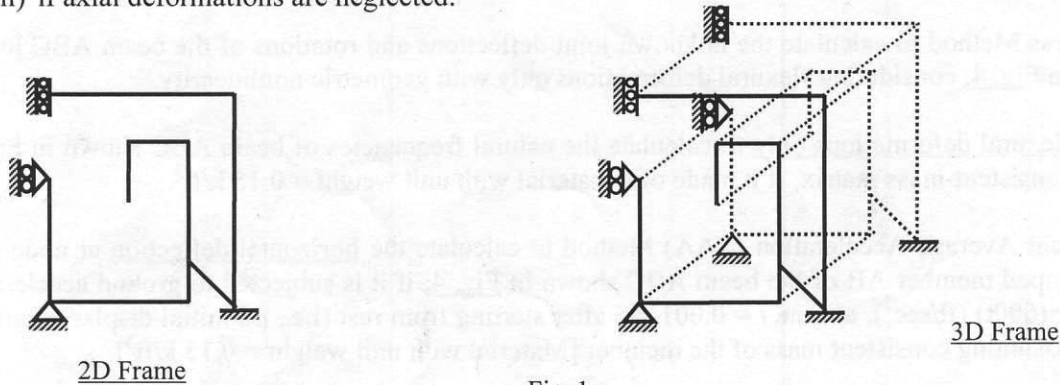

Fig. 1
1. Determine the size of stiffness matrices (**K**) of the 2D frame and 3D frame shown in Fig. 1